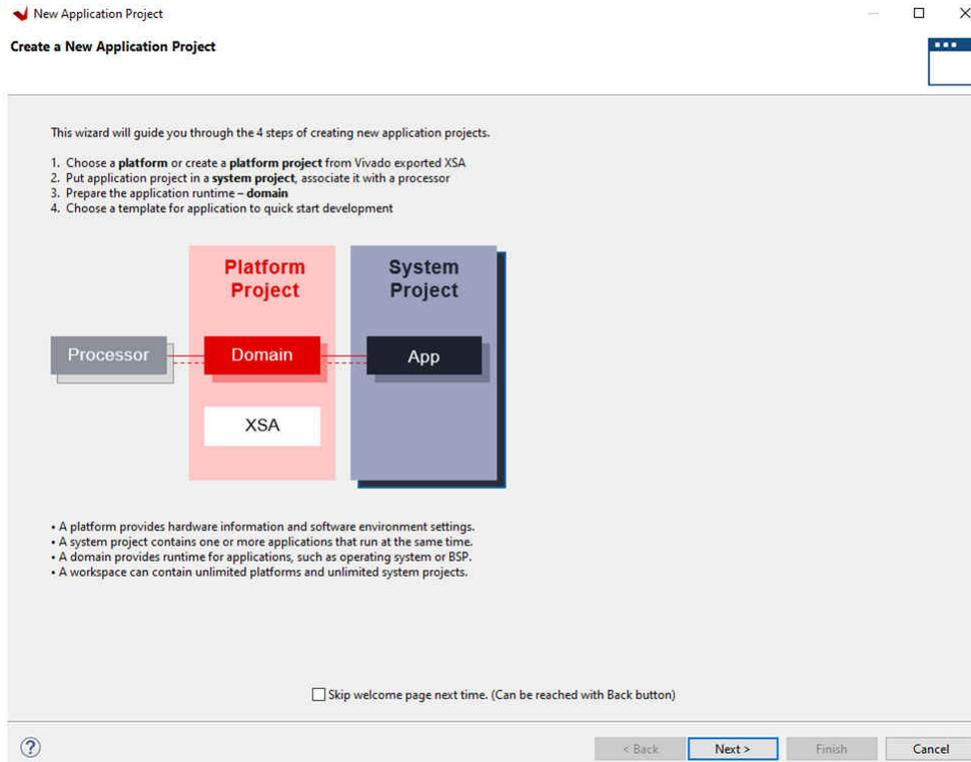

Figure 9-2. New Application Project
2. When the *New Application Project* window appears (see Figure 9-2), click *Next*.